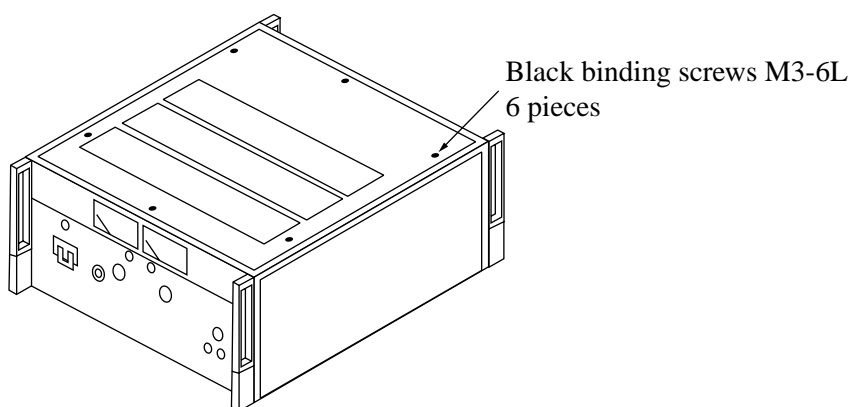

Fig. 1-2 Removing the top panel from the TYPE III model
2. Remove the top panel. See Fig. 1-2.